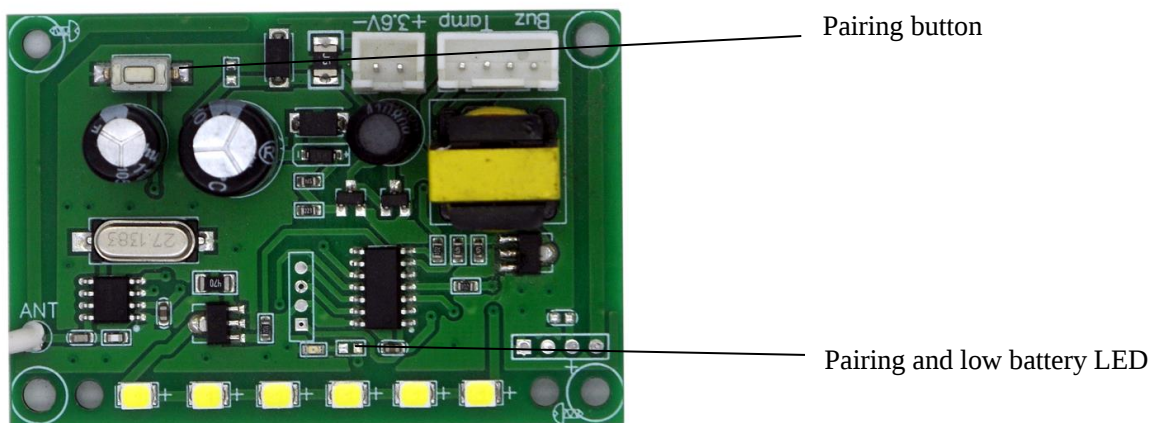

Fig 2 Siren PCB board
2. Press and release the Pairing button on the siren PCB board – fig 2; The pairing LED turns on – in pairing mode. Withing 15 seconds, send any signal from the transmitter to siren to register and pair.
The siren will beep every 30 seconds, and the low battery LED on the PCB (fig2) will flash when low battery is detected.